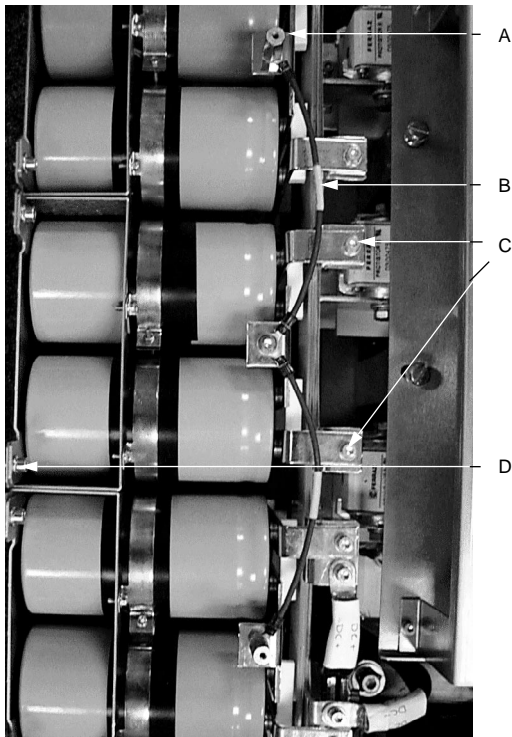

Figure 4.2.31: DC Bus Capacitor Assembly
4. Remove the one hex screw or standoff on the defective capacitor assembly (**A**) and move the capacitor assembly jumper (**B**) aside. (See Figure 4.2.31).
5. Remove the two hex screws securing the capacitor assembly to the vertical bus (**C** in Figure 4.2.31).
6. Remove the two hex screws securing the capacitor assembly to the capacitor mounting bracket (**D** in Figure 4.2.31).
2. Secure the capacitor assembly to the mounting bracket with two hex screws (**D** in Figure 4.2.31 on page 4.2.58). Torque the screws to 18 lb-in (2 N•m).
3. Secure the capacitor assembly to the vertical bus with two hex screws (**C** in Figure 4.2.31). Torque the screws to 34 lb-in (3.8 N•m).
4. Connect the capacitor assembly jumper (**B** in Figure 4.2.31) with one hex screw and torque to 34 lb-in (3.8 N•m) or standoff and torque to 18 lb-in (2 N•m) (**A** in Figure 4.2.31).